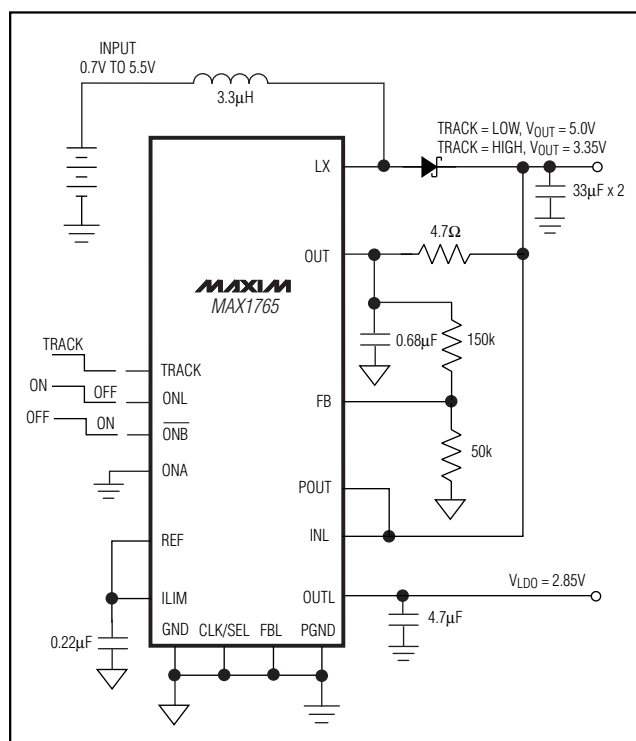

Figure 4. Dual-Output Power Supply
When the TRACK input is low, the MAX1765 operates two independent power supplies, a DC-DC converter, and a linear regulator. One such application of this configuration is shown in Figure 4. In this mode, the device generates two boosted voltages from a single battery supply. The DC-DC converter could be used to supply the power amplifier (PA) of a cell phone, while the linear regulator powers the baseband functions within the